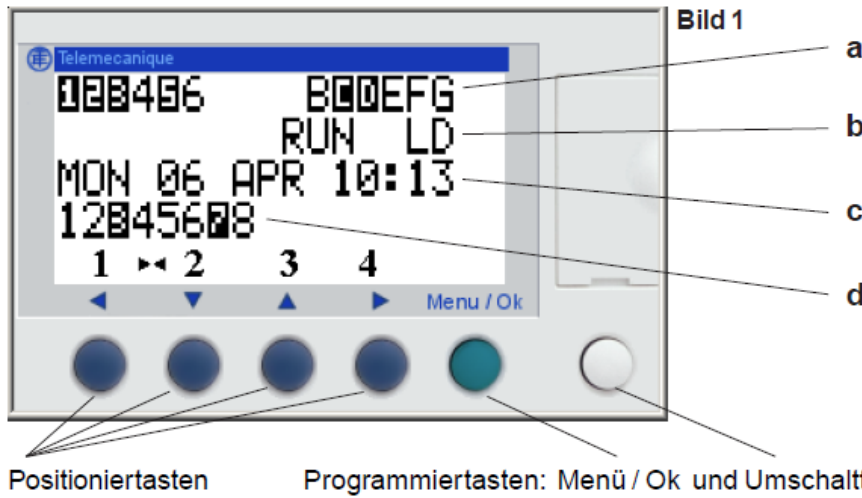

Bild 1	Figure 1
The display should indicate inputs/outputs (Fig. 1).
- From Figure 1 activate Menu/OK button
Back to main menu (Figure 1), confirm by pressing Menu/OK twice.